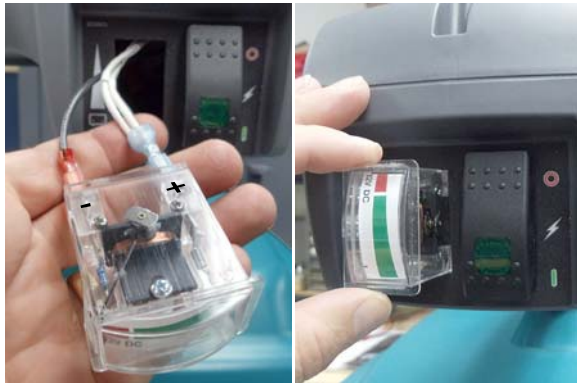

Fig. 11
- Install the AGM battery discharge gauge in its place (Figure 11). Connect white wires to positive (+) terminal and black wire to negative (-) terminal.